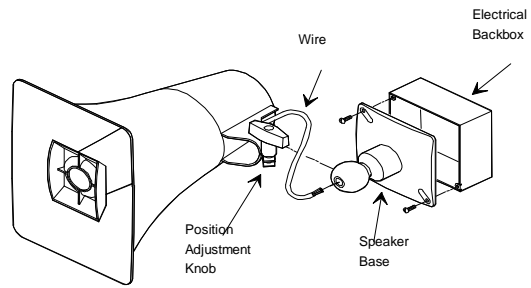

Figure 3 - Mounting to an Electrical Backbox
- Connection to an electrical backbox is accomplished by channeling wire through the ball of the base (See Figure 3) and making appropriate connections. The base has holes punched for a double-gang square box, but by punching out additional knockout holes, the base can be mounted to a single-gang or octagon box.